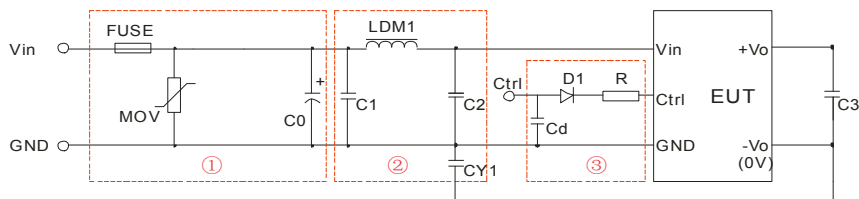

Fig. 3
RE	CISPR32/EN55032 CLASS B (see Fig. 3-② for recommended circuit)
- ① For EMC tests we use Part ① in Fig. 3 for immunity and part ② for emissions test. Selecting based on needs.
- ②  $V_C$  is the voltage of the Ctrl end relative to the GND of the input grounding;  $V_D$  is the positive-going conduction pressure drop of D1;  $I_C$  is the current flows into the Ctrl end and its value is generally 5-10mA, see Fig. 3-③ for the peripheral circuit of Ctrl end;
- ③ If there is no recommended parameters, no external component is required.